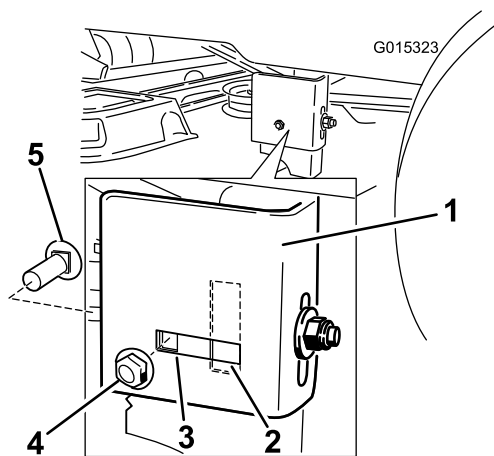

Figure 61
- Move to the left side of the machine. Remove the side carriage bolt and locking nut from the fixed position and install it into the rear, slotted position (Figure 61).